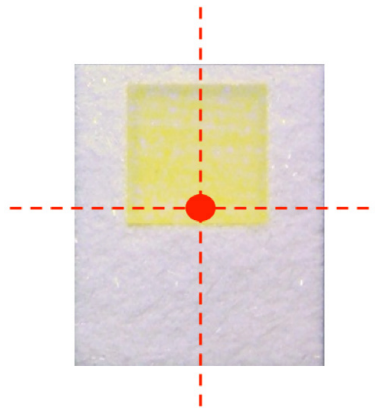

Figure 18. Pick-up position for LUXEON FX2 Plus LED
1. The pick-up area is defined in Figure 18.